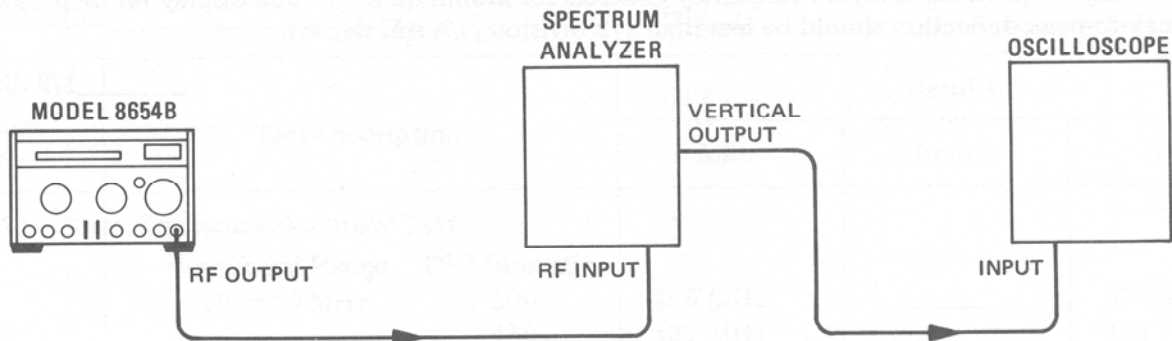

Figure 4-14. Incidental AM Test Setup
1. Connect equipment as shown in Figure 4-14 after setting Signal Generator controls as follows: